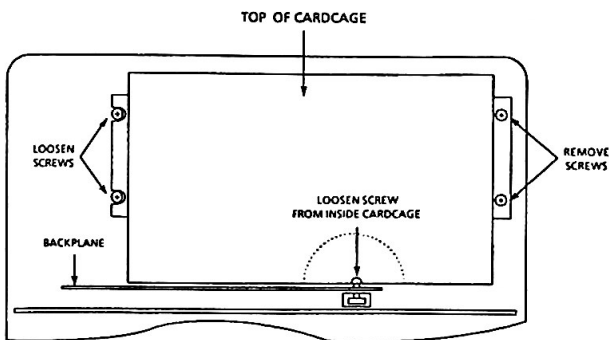

Figure 2-5. Cardcage Removal
3. As shown in Figure 2-5, there are five screws holding the cardcage in place: four outside and one inside near slot 1 (bottom). Loosen or remove these screws as instructed in the figure.